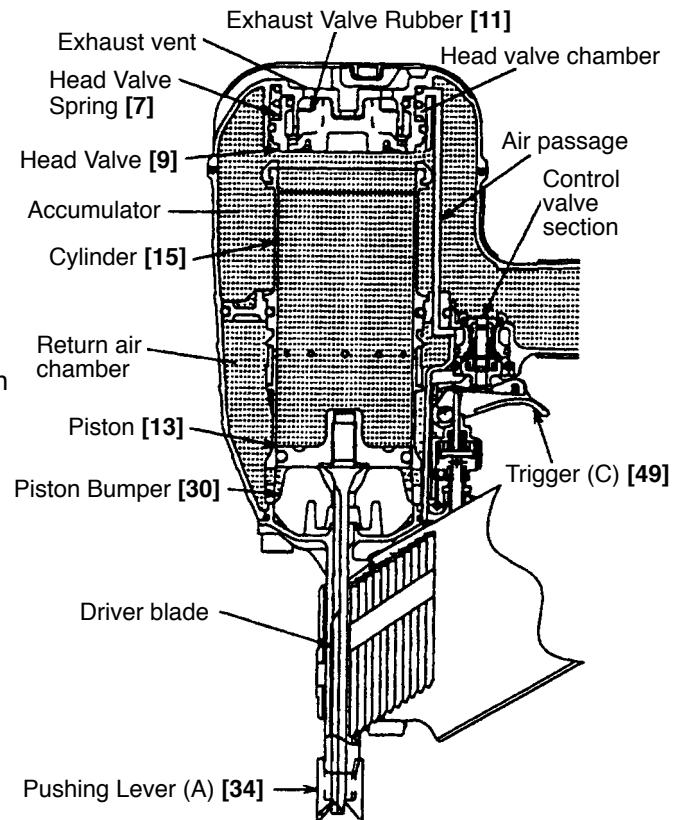
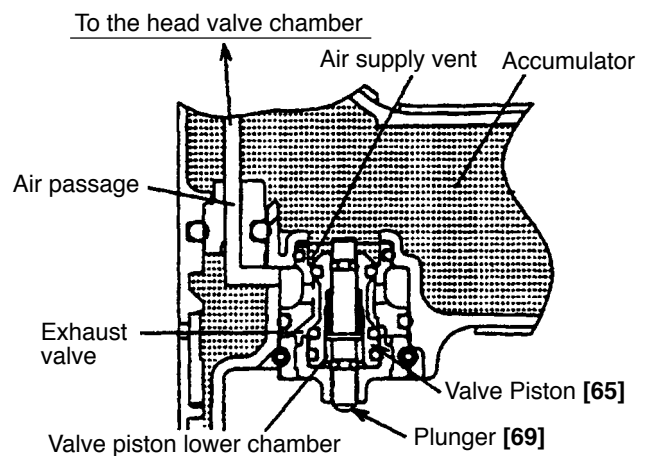

Fig. 6
Fig. 7 Control valve section
(3) During return (See Fig. 6 and Fig. 7.)
- 1) Immediately after driving the first nail, the control valve should be as shown in Fig. 7.
Because of this, compressed air does not flow into the valve piston lower chamber, and Valve Piston [65] remains in the lowered position. Accordingly, the Piston [13] remains in the lowered position as shown in Fig. 6.
- 1) Immediately after the first nail is driven, the control valve should be as shown in Fig. 7.